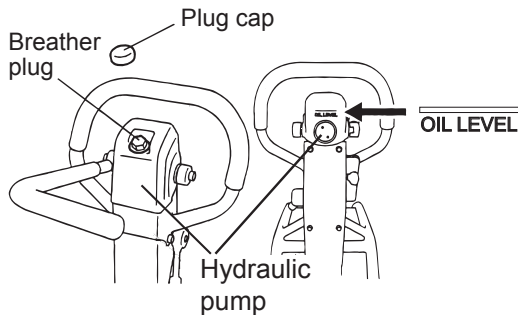

Figure 30. Removing Plug/Breather Cap
1. With the handle in vertical position, remove the plug cap from the hydraulic pump (Figure 30).
8. Pour hydraulic oil (1.1 liters) to the hydraulic pump breather plug attachment hole (Figure 30).